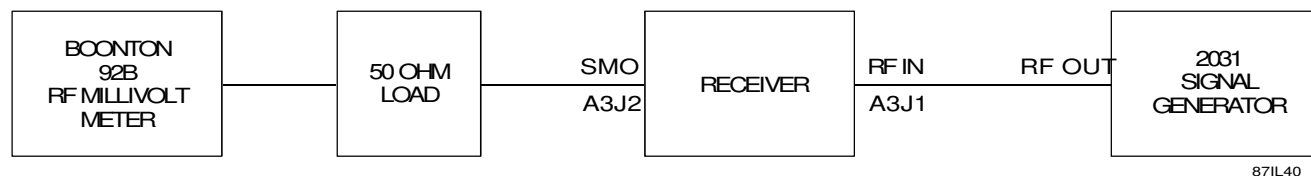

Figure 7-9. RF/IF Signal Path Performance Test Equipment Connection
1. Connect the WJ-8711A Receiver and test equipment as illustrated in **Figure 7-9**.